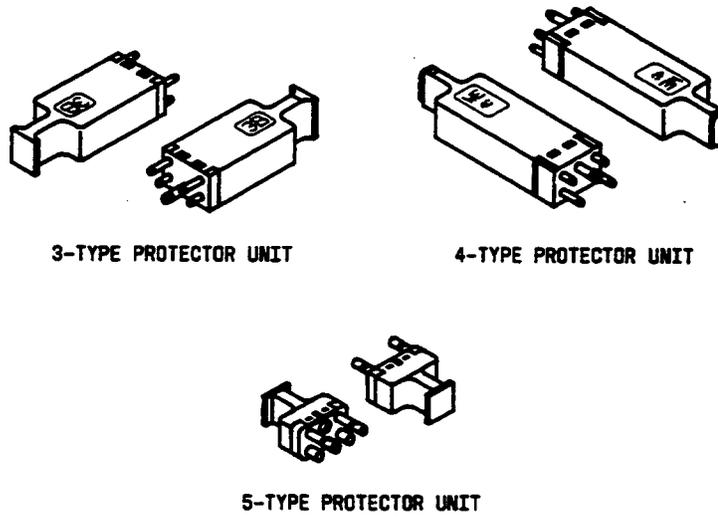

Figure 1—Typical 3-, 4-, and 5-Type Protector Units
2.03 The plug-in protector units (Figure 1) are categorized by three types: